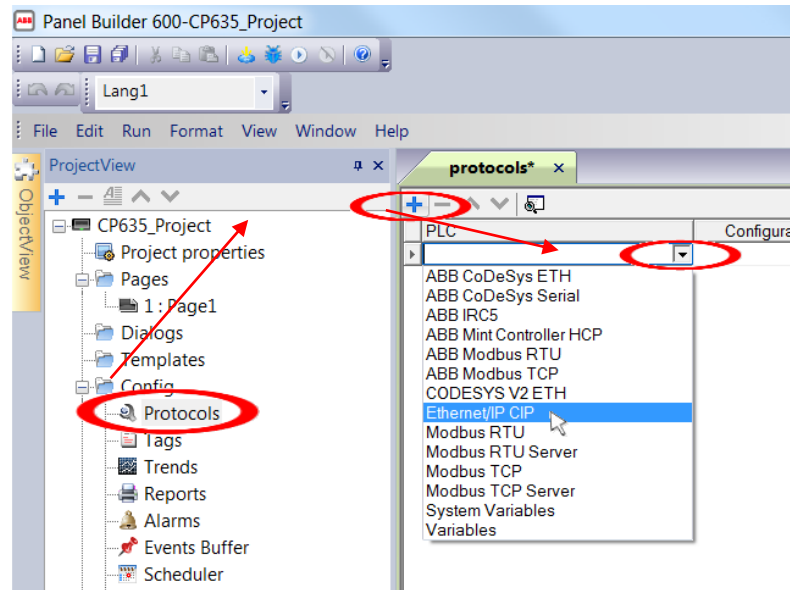

Figure 3- Adding the Ethernet/IP CIP protocol to the Panel Builder project.
- 4.4. Select “Ethernet/IP CIP” from the drop-down in the PLC column, as shown in figure 3.